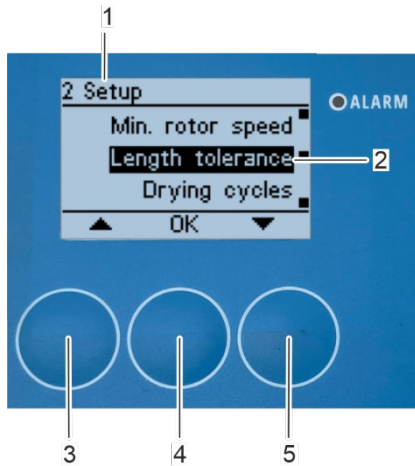

Fig. 134: Open submenu "length tolerance"
⇒ The "2 Setup" submenu appears again on the display again (Fig. 134/1).
1. Select the "Length tolerance" submenu (Fig. 134/2) with the arrow keys [up] (Fig. 134/3) and [down] (Fig. 134/5) in "2 Setup" submenu (Fig. 134/1).
2. Confirm the selection with [OK] (Fig. 134/4).